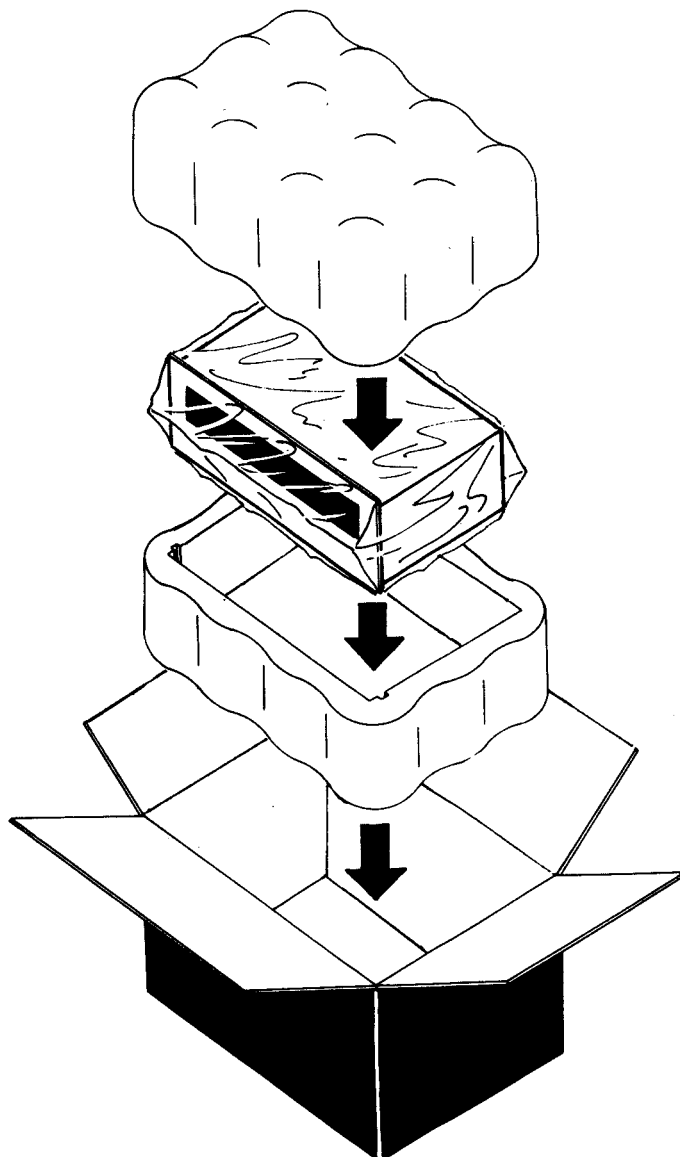

Figure 9. Repacking Illustration
- B. Pack the unit carefully, using the original material as shown in Figure 9.